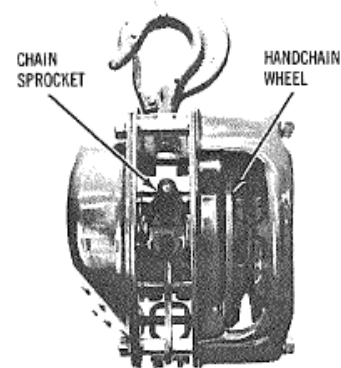

FIGURE 9
- Position load chain sprocket by rotating handchain wheel (Figure 9) so that wide and narrow grooves show.